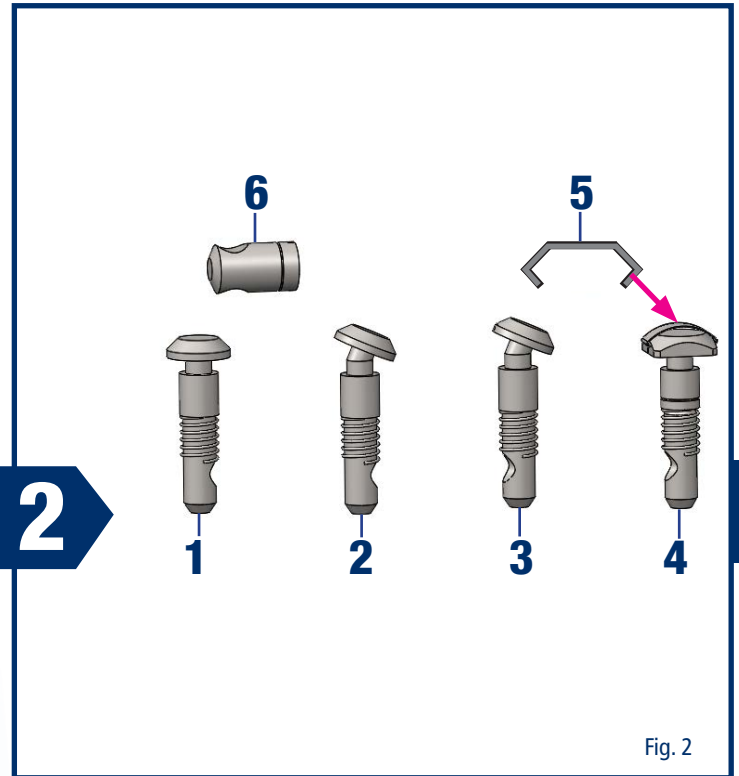

Fig. 2
Attach the straight anchors (Fig. 2, item 1) to the straight ends of the following profiles:
Attach the bent anchors, 23°/-23° (Fig. 2) at the angled ends of the following profiles:
Before assembling the angled side profiles (Fig. 4, item B), insert two square head anchors (Fig. 2, item 4), to which you have attached the leaf springs (Fig. 2, item 5) in the direction of insertion, into the T-grooves of the profile Fig. 4, item A) to aid in the later assembly of the centre profile (Fig. 4, item C).
Then attach the centre profile (Fig. 4, item C), using the pre-assembled square anchors (Fig. 2, item 4). Before doing so, however, insert two cross-pieces (Fig. 2, item 6) laterally into the holes of the centre profile.